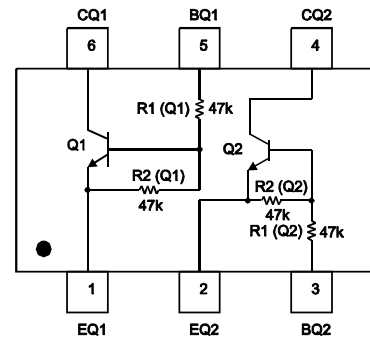

Fig. 2: Schematic and Pin Configuration
- Terminal Connections: See Figure 2